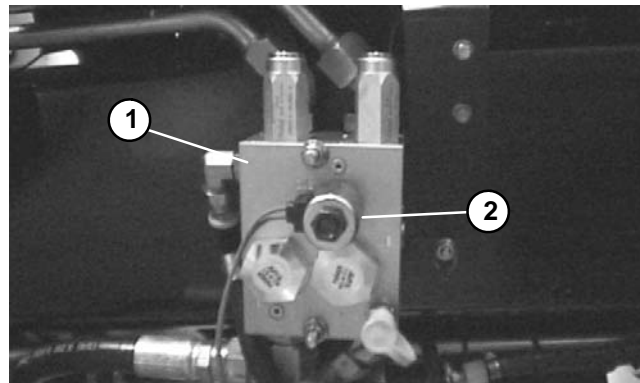

Figure 49
1. Make sure ignition switch is off. Disconnect hydraulic valve solenoid electrical connector from wiring harness (Fig. 49).